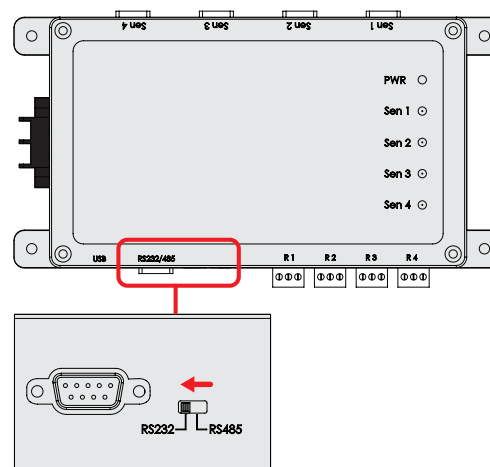

Figure 10. Changing control box output to support RS232 connection
4. Select the Serial output Switch on the control box (refer to Figure 10) to RS232.